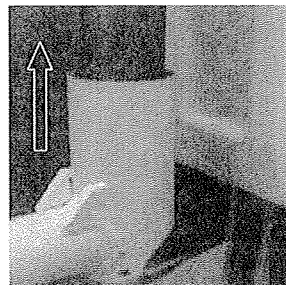

Figure 11: Extension Arm
- Have one person slide the extension arm assembly up onto the wall/ceiling mount and hold it into place. Refer to Figure 11.